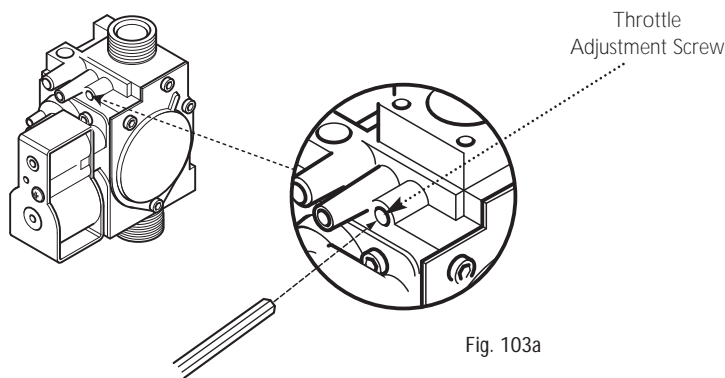

Fig. 103a
**NOTE:** To assist the boiler to light prior to final setting, use a suitable hexagon key to wind out the Throttle adjustment screw until it is flush with the valve body, then turn the screw 4 full turns clockwise (Fig. 103a). If the boiler will not light, or the correct CO2 cannot be achieved contact the 'heateam' technical helpline.